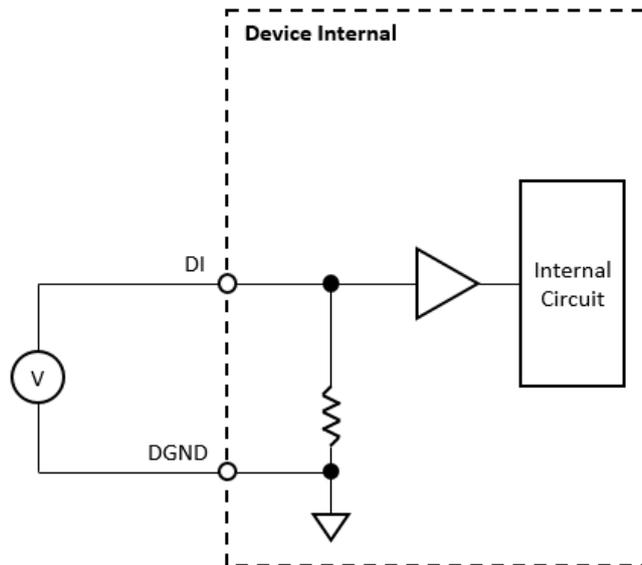

Figure 2.6 Digital input signal connection.
A digital input/output (DI/O) channel can be configured by software to perform digital input measurement, which is the power-on default configuration, or digital output generation. When performing digital input measurement, the voltage logic level between the digital input (DI) terminal and the digital ground (DGND) terminal is measured. To prevent undetermined or fluctuating results when input is floating, the digital input channel is internally pulled-down. This is shown in Figure 2.6.